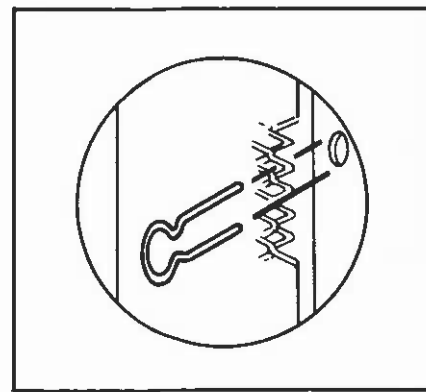

Fig. 2 Screen Retaining Clips
First release the four (4) screen retaining clips on the side and back of the firebox. Retain these clips (Fig. 2). Slide the screen away from the edges of the fireplace to the center.